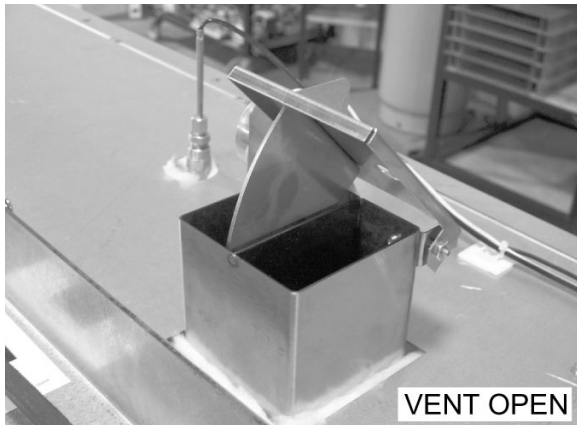
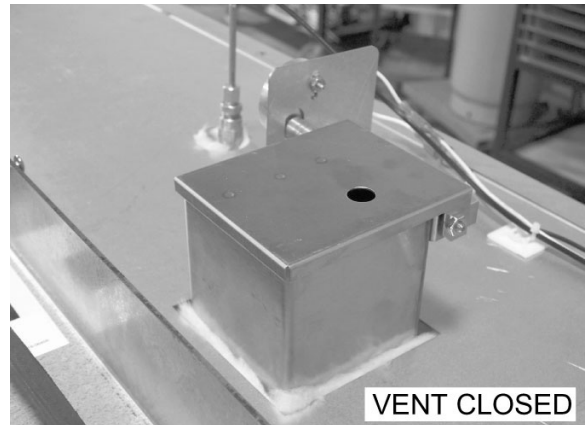

Fig. 10
Fig. 11
- B. Visually check that vent opens (Fig. 10) and closes (Fig. 11) when button is pushed. If vent does not operate, contact your authorized Bakery Systems service agency for service.